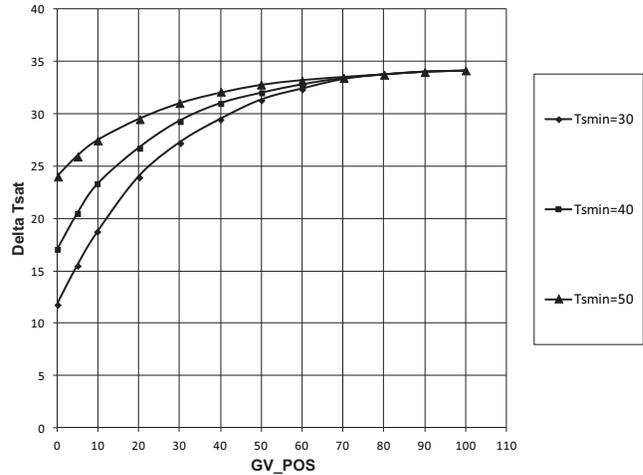

Fig. 37 — Effect of SURGE/HGBP DELTA TSMIN on Surge Prevention
- Surge/HGBP Delta Tsmin is the minimum difference between cooler and condenser saturation temperatures. (See Fig. 37.)